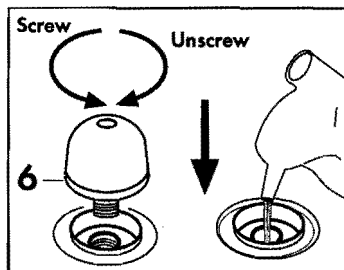
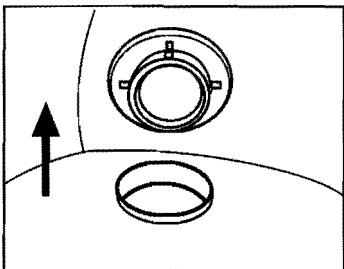

Fig. 2
Fig. 3
- unscrew the boiler cap (6) by turning it anticlockwise while simultaneously applying downward pressure; Fig 2.
- turn the fill bottle upside down on the boiler Fig 2.
- screw the boiler cap (6) by turning it clockwise while simultaneously applying downward pressure; ensure the cap is securely tight.
Open the detergent door (4), remove the black cap and fill the tank with tap water or non-foamy detergents. Close the cap and the door (4); Fig 3.